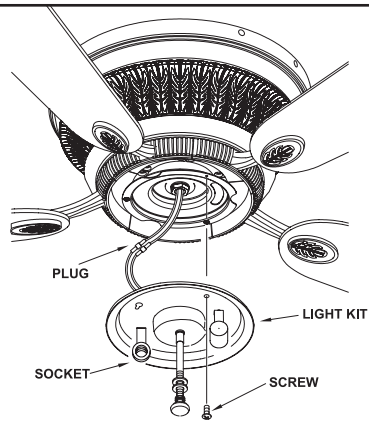

Fig.9
Step 1. Remove 1 of the 3 screws from the lamp holder plate and loosen the other 2 (do not remove). (Fig. 9)
Step 2. Snap the connector plugs from the fan and light kit. Place the light kit plate over the two screws previously loosened (via the two key holes) and turn until it locks into place. Install the 3rd screw previously removed and securely tighten all three screws. (Fig. 9)